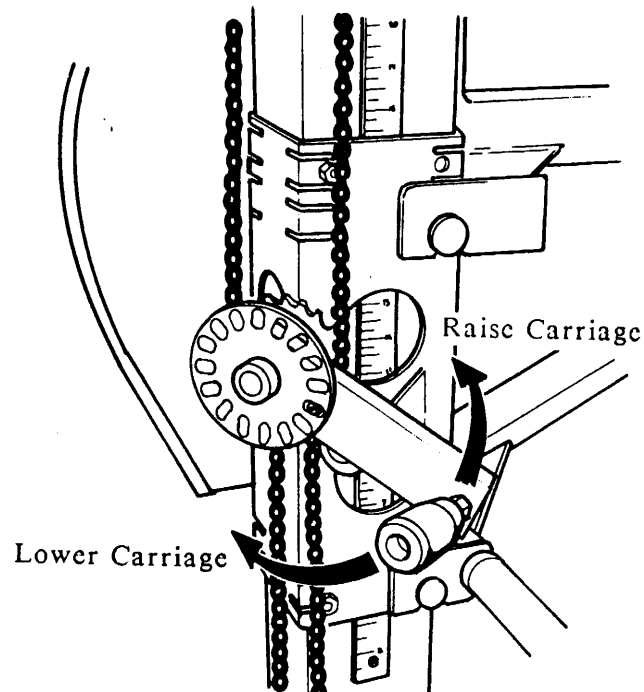

FIGURE 5
The carriage is raised and lowered by the hand crank on the front of the carriage assembly (See Figure 5). There are 16 holes in the face plate of the up/down crank assembly. Each hole represents an adjustment in the blade height of 1/16 of an inch. One full turn of the crank is one (1) inch.